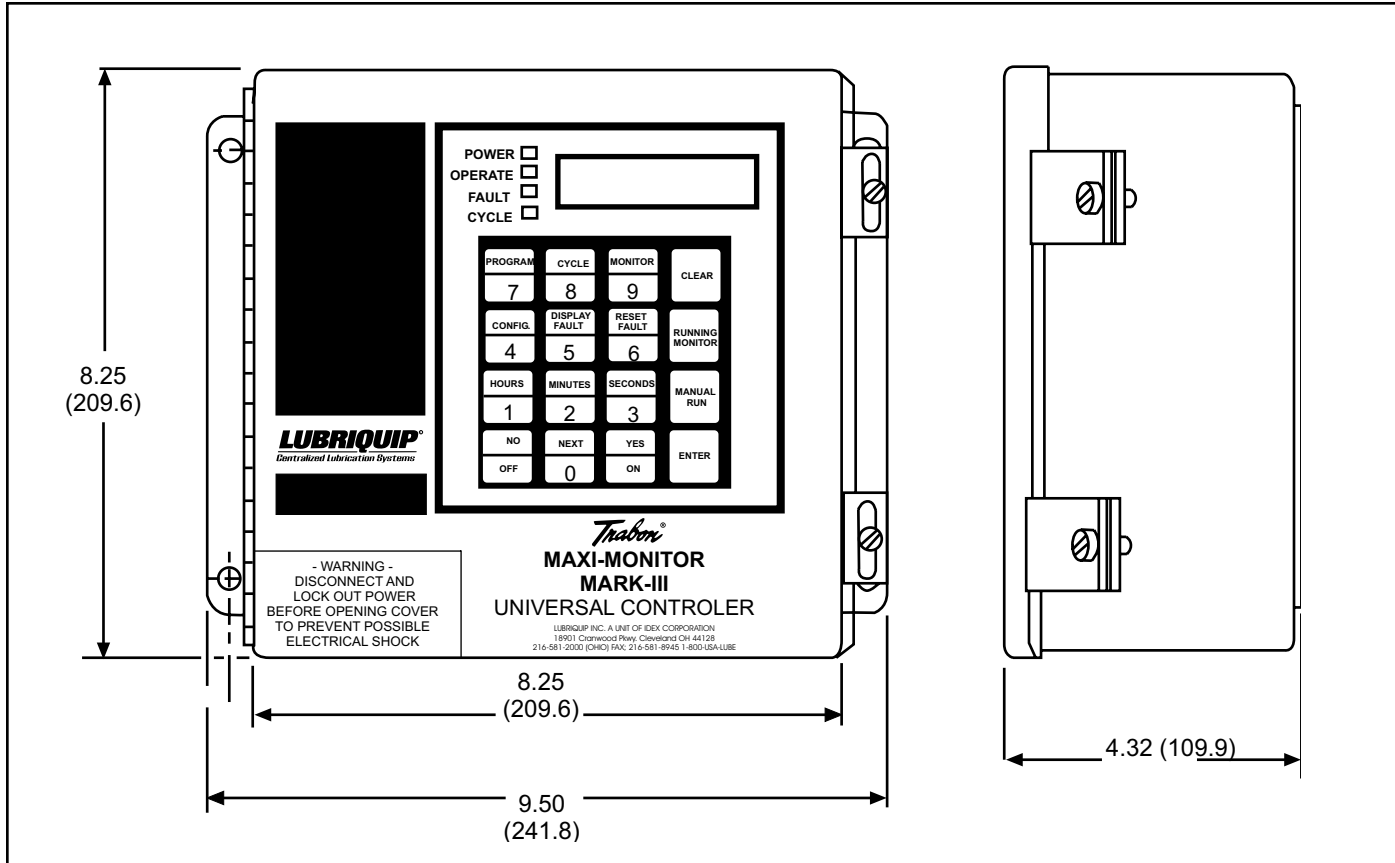

Figure 7-1. AC Timer Wiring Schematic
7.2.1.1 To install the AC Timer, use the following procedure (See Figure 7-1):